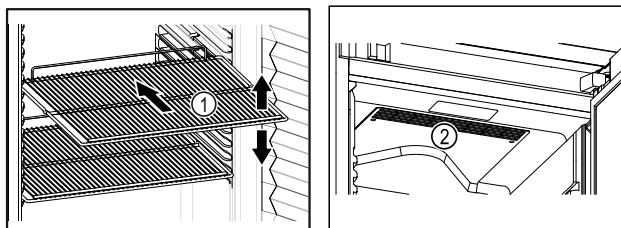

Fig. 68
- Ventilation slots Fig. 68 (2) for recirculation fan in the interior must be kept clear.